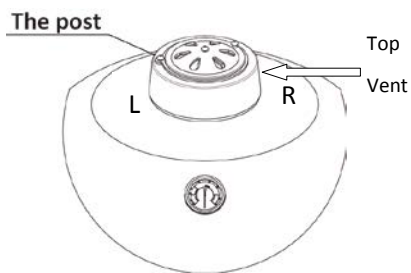

Figure 6
STEP 8 Close the grill dome and place the 304 stainless steel top vent on top of the dome neck. Turn the top vent base to make sure the post of the top vent is on the left side. This will prevent the dampers from sliding when the dome is opened. (See Figure 6)